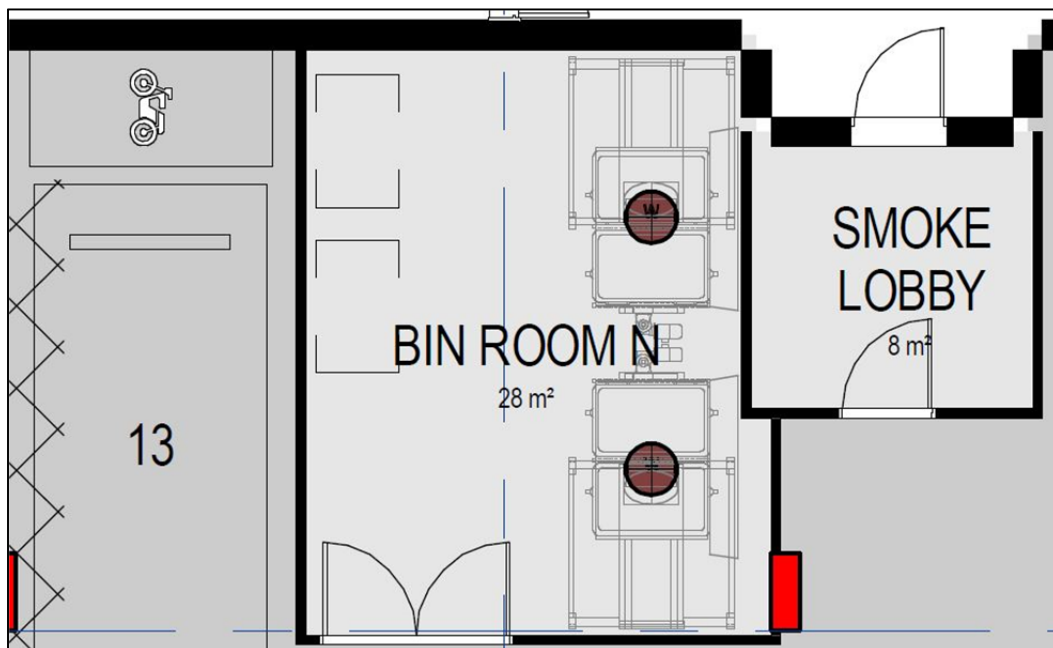

Figure 7: Satellite bin store
On the northern side of level 1 is a satellite bin store at 28 m2 for residential use. The satellite bin store supports a small amount of MGBs, approximately six (6) MGBs, to collect waste and recycling from the northern section of the residential tower, **Figure 7**.